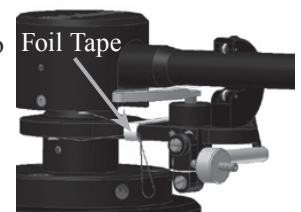

Figure 11
- Remove the foil tape from the Tone Arm Support Arm to free the Anti-Skate Cord. Refer to figure 11.